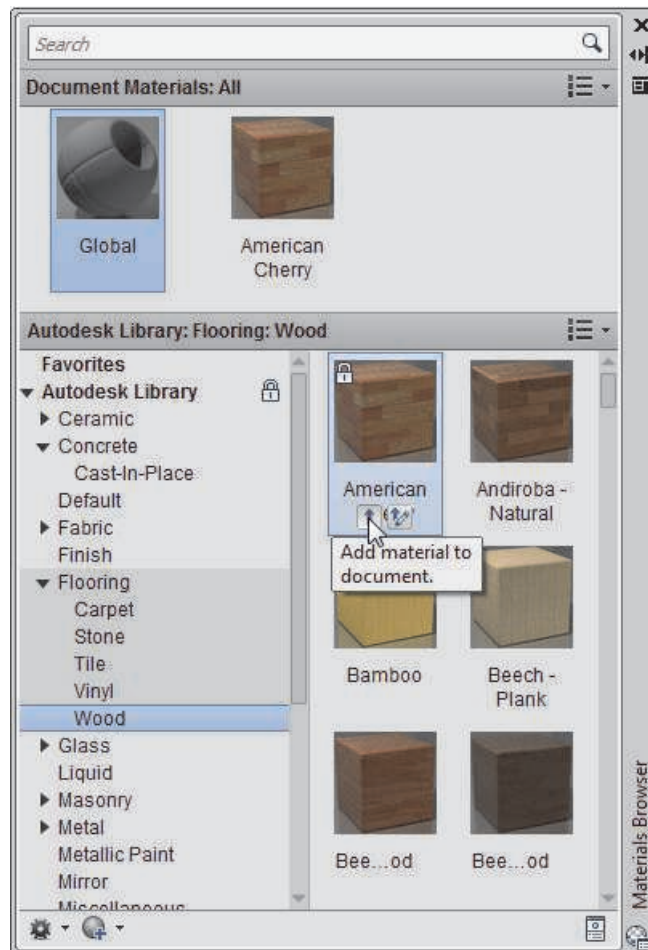

Figure 10–30
5. Hover the cursor over **American Cherry**, then click  (Apply) to add it to the *Document Materials* area, as shown in Figure 10–30.